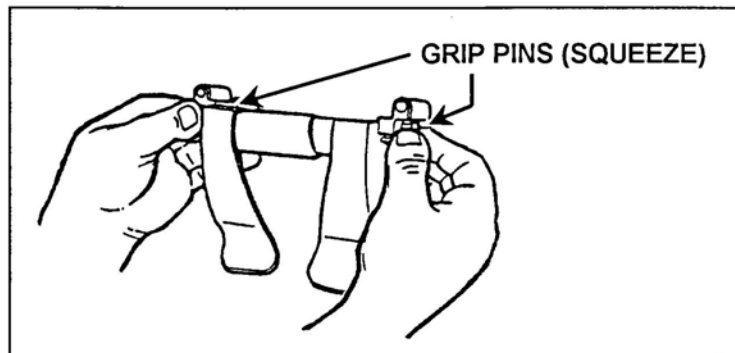

Figure 10. Feeding Assembly
5. Attach the feed throat assembly (Figures 10 and 11).